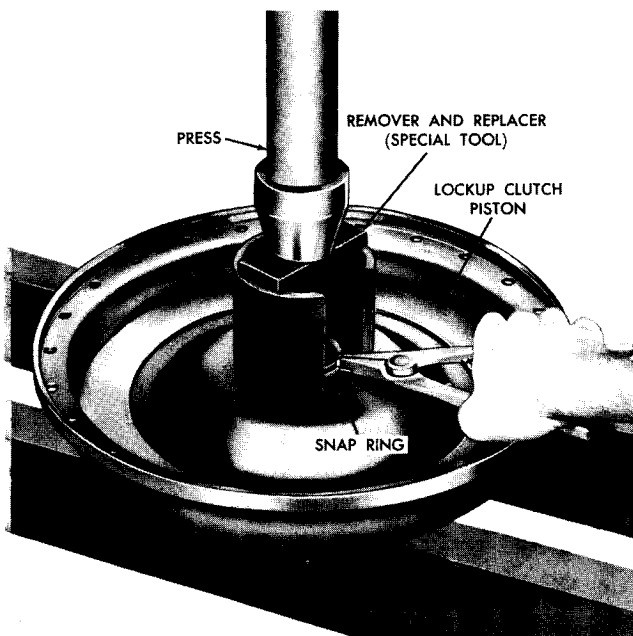

Fig. IX-1 Removing snap ring from hub of converter pump assembly
(1) Using remover and replacer sleeve, compress the center of the lockup clutch piston and remove snap ring (fig. IX-1).